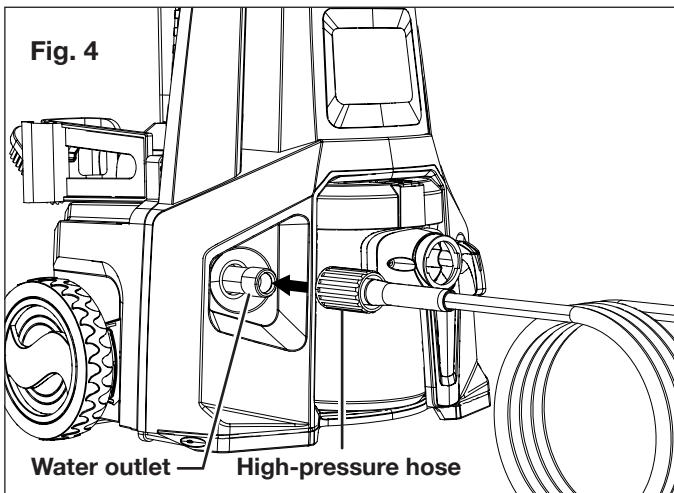

Fig. 4
3. Connect the other end of the high-pressure hose to the water outlet on the washer and twist the black rotatable end-piece to secure the connection (Fig. 4).